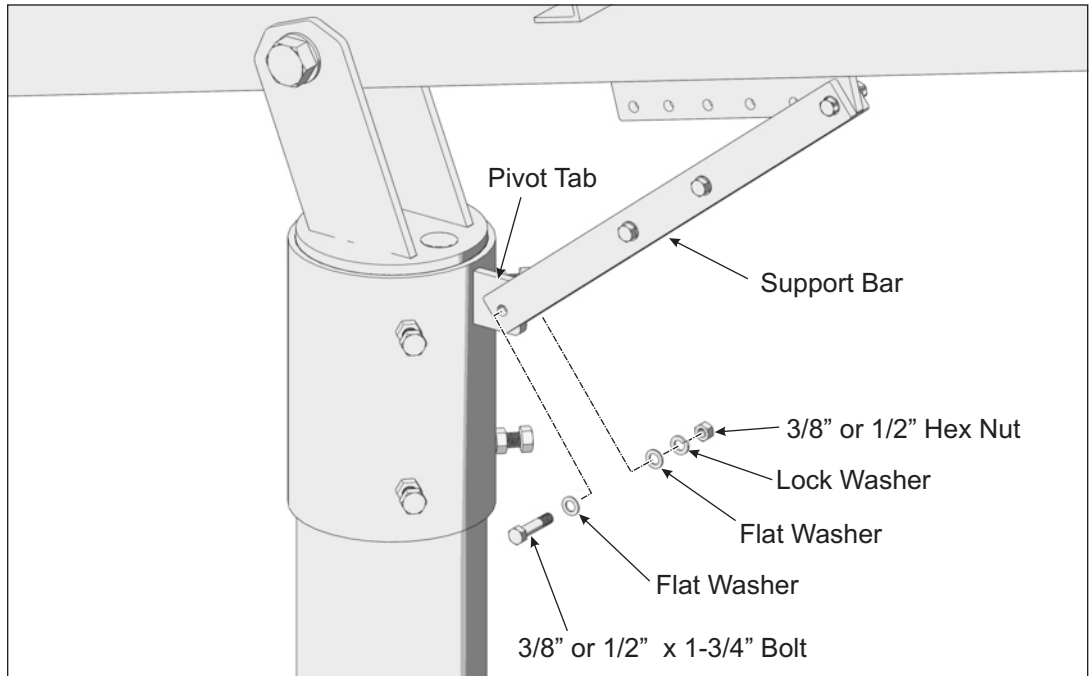

Figure 2-3: Securing Support Bar to Mounting Sleeve
- F. Pivot the Strongback and the Support Bar to align the mounting holes of the Support Bar with its Pivot Tab on the Mounting Sleeve. Slide the Support Bar over the Pivot Tab. Insert the 3/8" or 1/2" x 1-3/4" bolt and one flat washer thru the Support Bar and Mounting Tab and secure it with the remaining flat washer, lock washer and hex nut. **Torque hardware on both ends of Support Bar at 32-34 ft.-lbs. for 3/8" hardware or 72-80 ft.-lbs. for 1/2" hardware.** (See Figure 2-3)